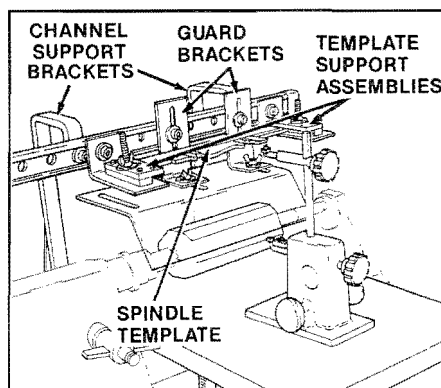

Figure 18. Spindle Setup.
1. Set up the duplicator for spindle turning according to the following procedures. (See Figure 18.)